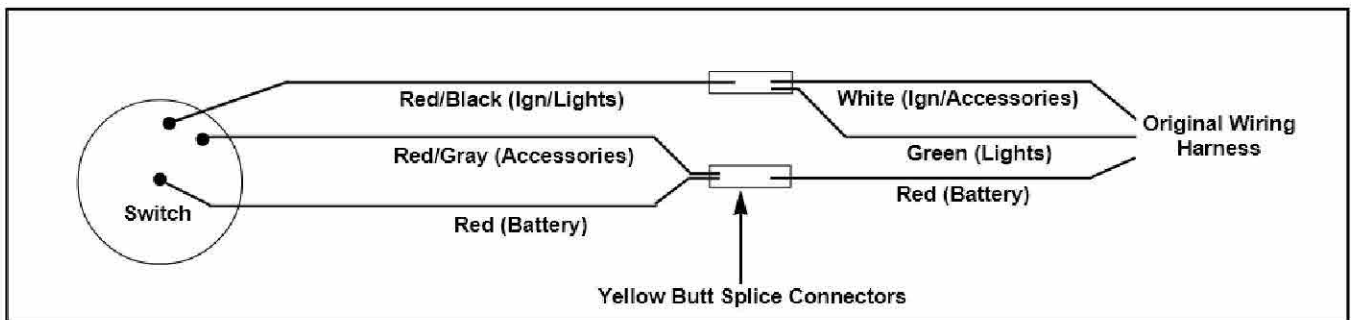

Figure 5. 1975-1993 XL, 1982-1993 FXR (except 1986-92 FXRT/FXRD with Radio) and 1973-1985 FX (except FXST and FXWG)
4. See Figure 5. Switch must be spliced into existing harness using two large butt splice connectors (yellow). Cut wires approximately 3 in. back from switch. Refer to Installing Wire Splice section at the end of this instruction sheet.